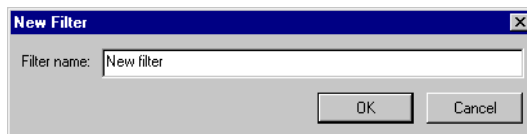

Figure 136. New Filter Dialog Box
5. Type a name for the filter, see Figure 136, and click **OK**. The name of the new filter is displayed in the **Available Filters** list, and you can start configuring it by adding aspect categories to be included in the filter.